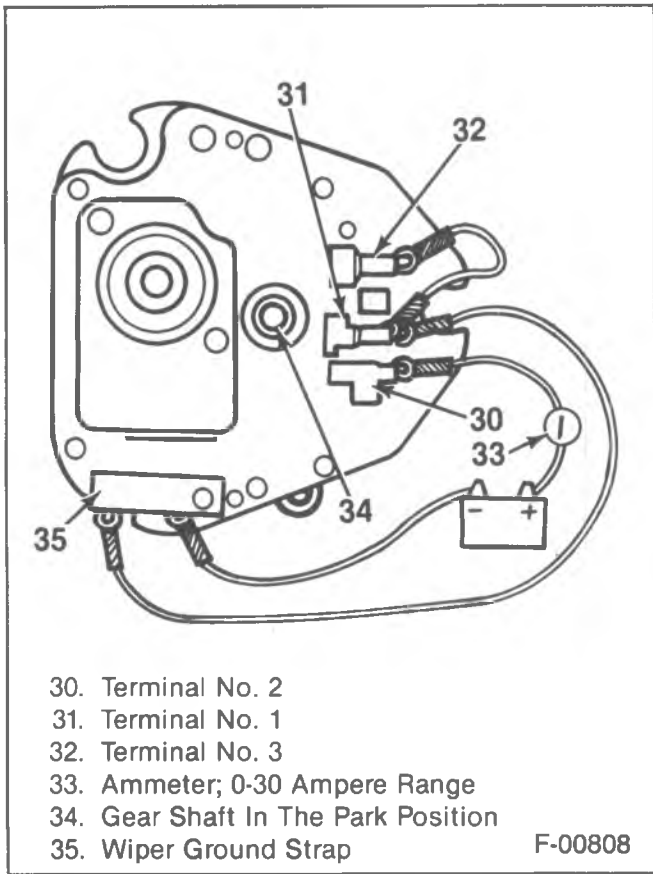

Figure 49—Jumper Connections — Low Speed
3. Disconnect wiring harness from wiper and try operating wiper as shown in Figures 49, 50, and 51.